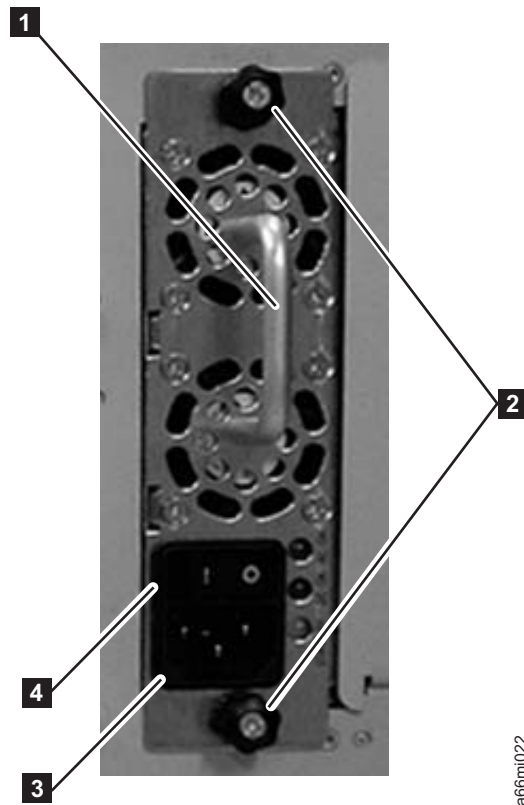

Figure 4-22. Control Module Power Supply
1. Replace the power supply component by sliding it into the power supply slot. First, grasp the handle ( **1** in Figure 4-22) while supporting the power supply component from underneath. Then, line up the power supply component with the guides in the power supply slot, and carefully push it into the library.
2. Tighten the two thumb screws ( **2** in Figure 4-22) on the power supply component by turning them clockwise.
1. Turn the switch on each power supply ( **4** in Figure 4-22 on page 4-21) to the ON (I) position.